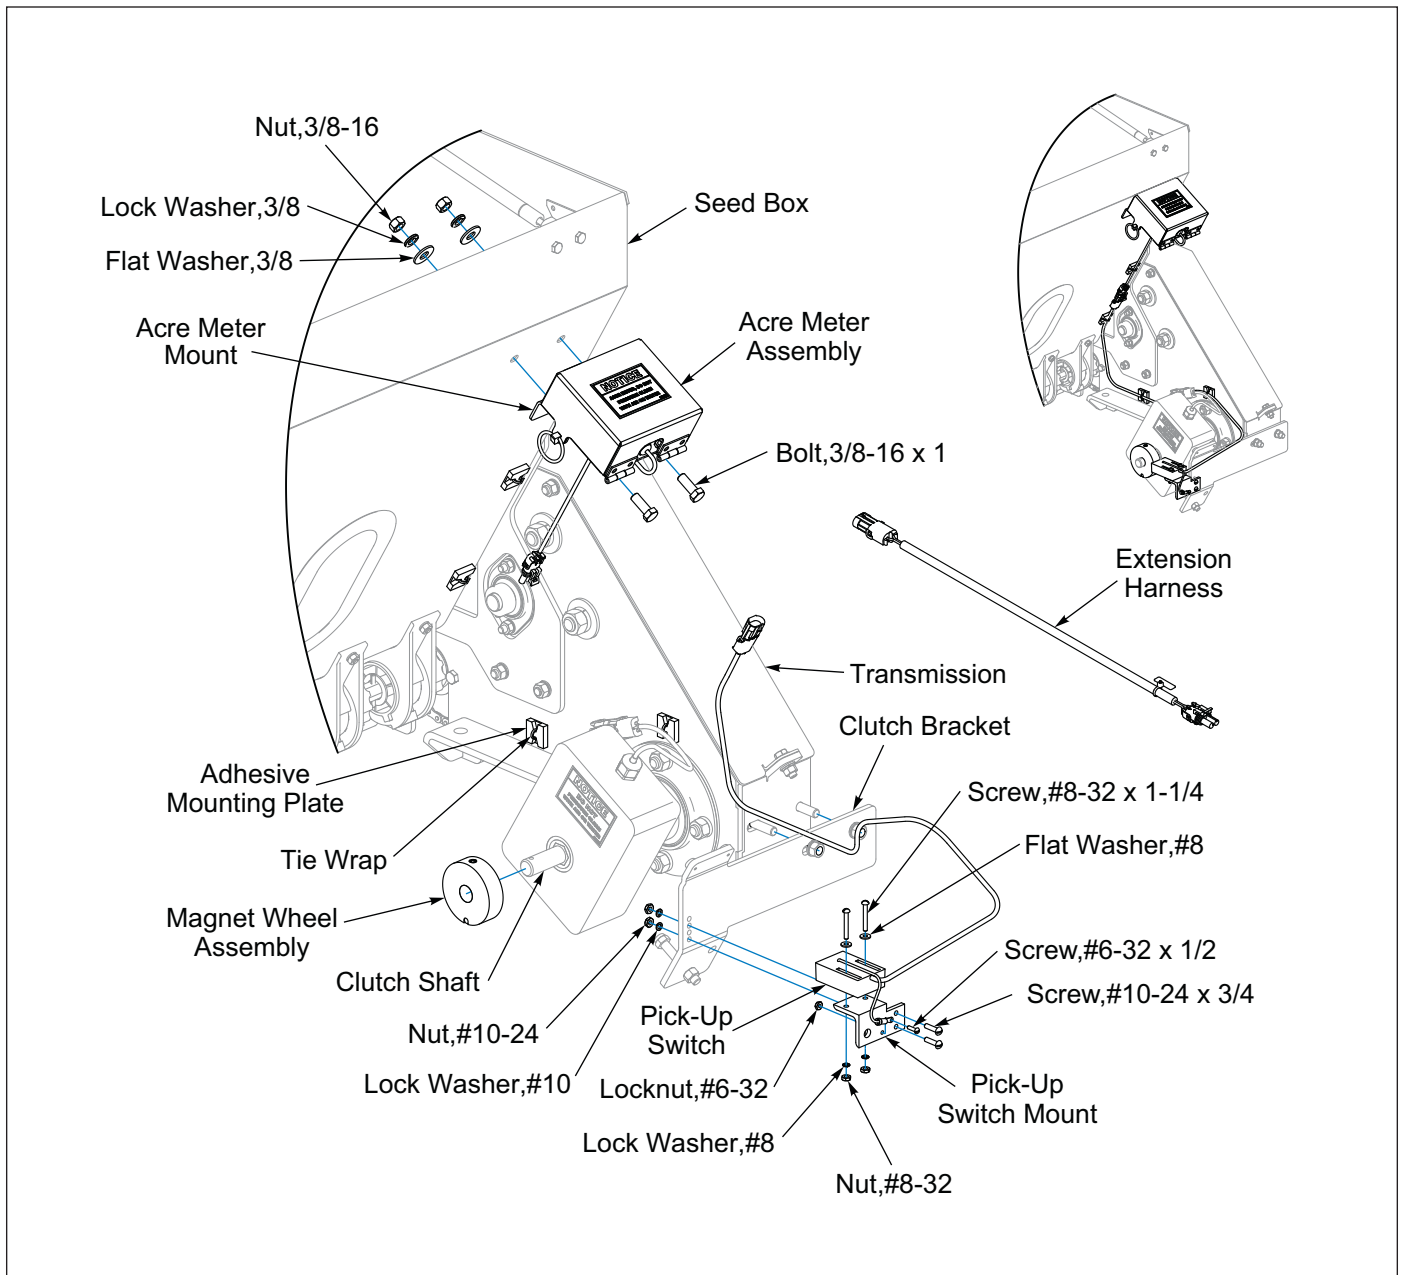

Figure 2-34: Electronic Acre Meter Kit
2. Attach the Acre Meter Bracket to the Seed Box with 3/8-16 x 1 Bolts, Lock Washers and Nuts. **See Figure 2-34.**